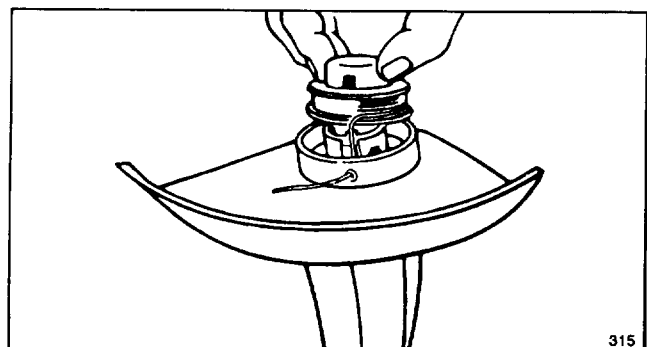

Figure 21
- D. The spool and core are keyed and **must** be properly aligned when putting spool back on. With line still retained in spool groove, thread end of line through eyelet, place spool onto keyed spool core, and push spool inward until you hear it click (Figs. 21 & 22). Pull line to free line from groove in spool. Unwind no more than three inches of line from spool.